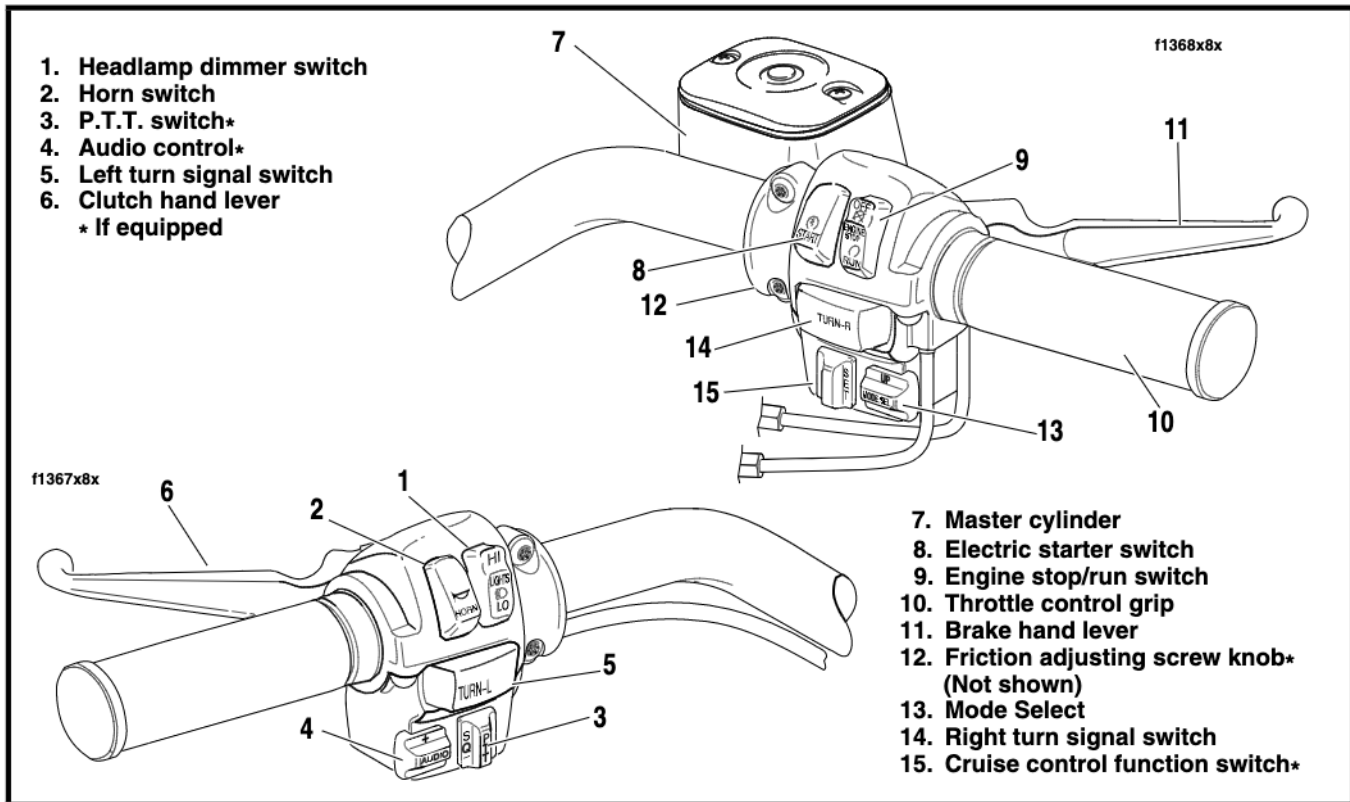

Figure 2. Handlebar Controls
See Figure 2. The electric starter switch (8) is located on the right handlebar control group. Put engine stop switch (9) in RUN position and transmission in neutral. Turn ignition ON and push the START switch to operate starter motor.
See Figure 2. Engine stop switch (9) is located on the right handlebar control. The engine stop switch turns ignition ON or OFF and should be used at all times to stop the engine, especially in an emergency. To stop engine, push switch to position marked OFF - then turn key to OFF.
See Figure 2. The throttle control grip (10) is located on the right handlebar control group. Turn control grip clockwise to close throttle; turn control grip counterclockwise to open throttle.
See Figure 2. The clutch hand lever (6) is located on the left handlebar where it is operated with the fingers of the left hand. Pull lever in against handlebar grip to disengage clutch; release the lever slowly to its outward position to engage clutch.
The brake pedal controls the rear wheel brake and is located on the motorcycle's right side. It is operated by the right foot. See Figure 2. The brake hand lever (11) controls the front wheel brake and is located on the right handlebar. It is operated by the fingers of the right hand.
See Figure 2. The horn is operated by the horn switch (2) on the left handlebar control group.
See Figure 2. The headlamp dimmer switch (1) on the left handlebar controls the headlamp high and low beams.
Controls (Figures 2 and 5 and Table 1)